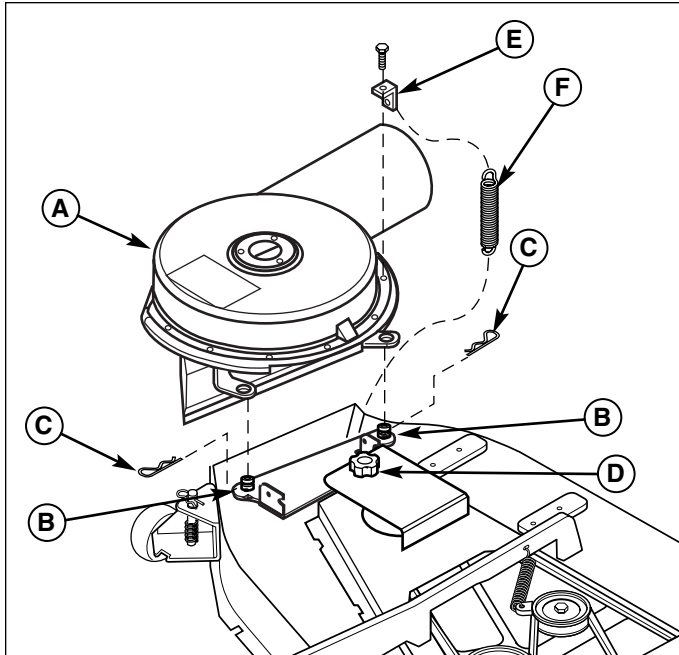
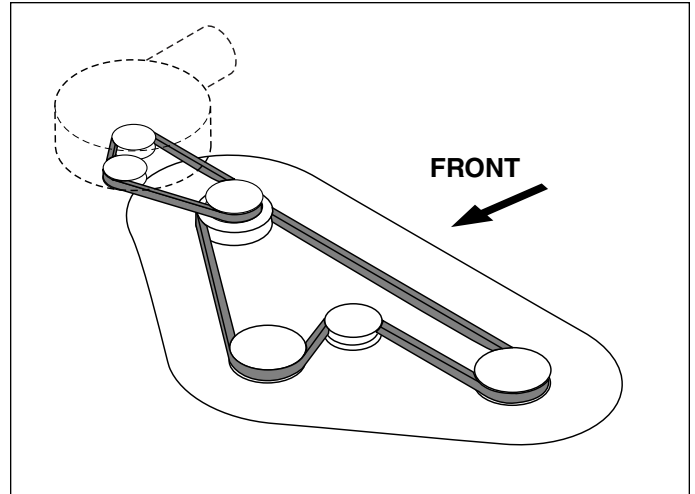

Figure 8. Install Turbo
Figure 9. Belt Routing
1. Install the turbo blower assembly. Insert the tapered spacers (B, Figure 8) through the bottom of the blower housing (A).
2. Install one spring clip (C) on both tapered spacers (B).
4. Use the release lever to release tension on the belt, and install the belt on the new arbor pulley (see Figure 9).
5. Rotate the belt cover into position and secure with the plastic knob (D, Figure 8).
6. If not already done, install the bracket (E) using the existing capscrew.
7. Install the spring (F). Connect the top of the spring to the bracket (E) and the bottom to the hole in the mower deck shell, just behind the discharge opening.